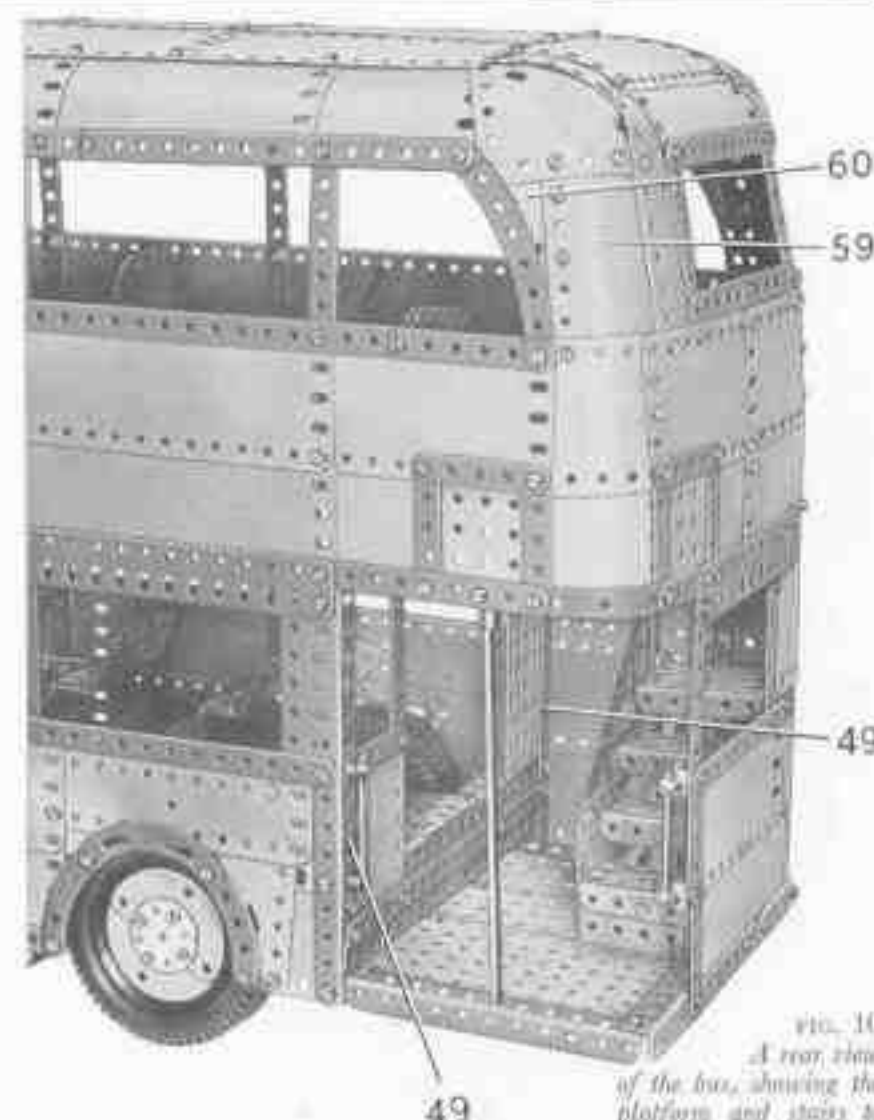

FIG. 10
two  $5\frac{1}{2}$ " x  $2\frac{1}{2}$ " Flexible Plates edged by Strips (Fig. 10) and connected to a  $3\frac{1}{2}$ " Flat Girder by two vertical  $3\frac{1}{2}$ " Strips that form the sides of the rear window frame.
The upper panelling at the rear of the body is completed by a  $4\frac{1}{2}$ " x  $2\frac{1}{2}$ " Flexible Plate (59) (Fig. 10), a  $5\frac{1}{2}$ " x  $1\frac{1}{2}$ " Flexible Plate and a  $3\frac{1}{2}$ " x  $2\frac{1}{2}$ " Triangular Flexible Plate. On the rear side a  $2\frac{1}{2}$ " x  $1\frac{1}{2}$ " Triangular Flexible Plate (60) is bolted in position, but on the off-side this is replaced by a  $3\frac{1}{2}$ " x  $1\frac{1}{2}$ " Triangular Flexible Plate. The plating above the rear window of the upper saloon consists of two  $4\frac{1}{2}$ " x  $2\frac{1}{2}$ " Flexible Plates and two  $2\frac{1}{2}$ " x  $1\frac{1}{2}$ " Flexible Plates.